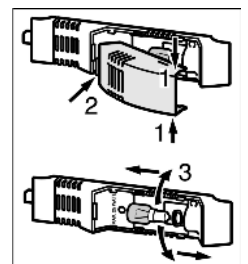

Fig. 17
- ▶ Take hold of the lamp cover at the top and bottom *Fig. 17 (1)*.
- ▶ Disengage the lamp cover at the back and detach it *Fig. 17 (2)*.
- ▶ Replace the lamp *Fig. 17 (3)*.